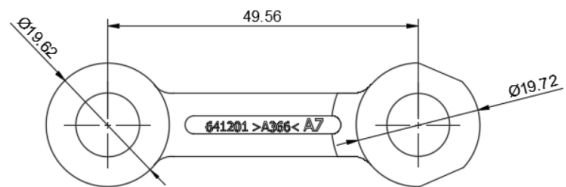

Figure 8. Insert dimensions
8. Insert the dimensions to the base view as pictured in Figure 8 using the Dimension tool.